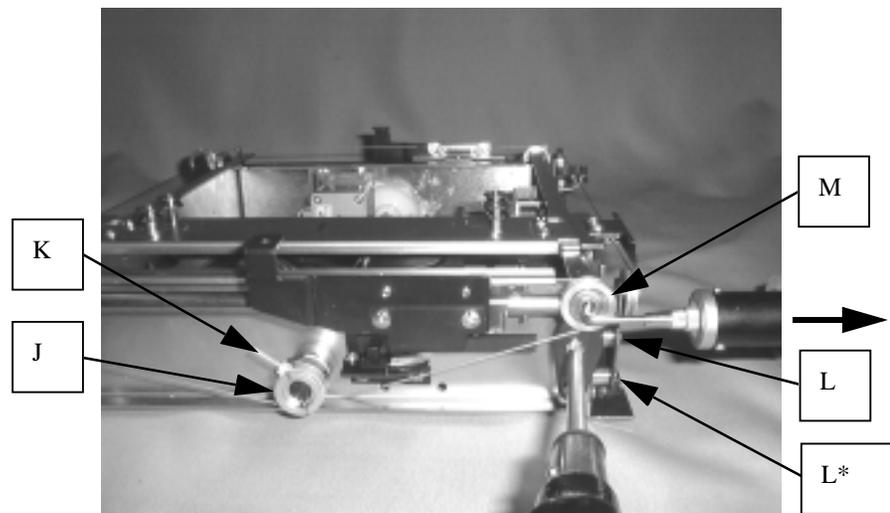

FIGURE 14-7
14. Apply the wire to right and left wire pulleys (M), tighten setscrews (L)(L*) temporarily, and cut grip band (K) which fixes the wire with due care so not to scratch the wire.
15. Pull wire pulley (M) in the arrow direction with about 7 Kgf as shown in Fig.14-7, and tighten setscrews (L)(L*).
16. Turn right and left pulley (J) several turns clockwise and counterclockwise, and check wire (I) for tension. If the tension of wire (I) is not suitable, pull the wire pulley (M) again.